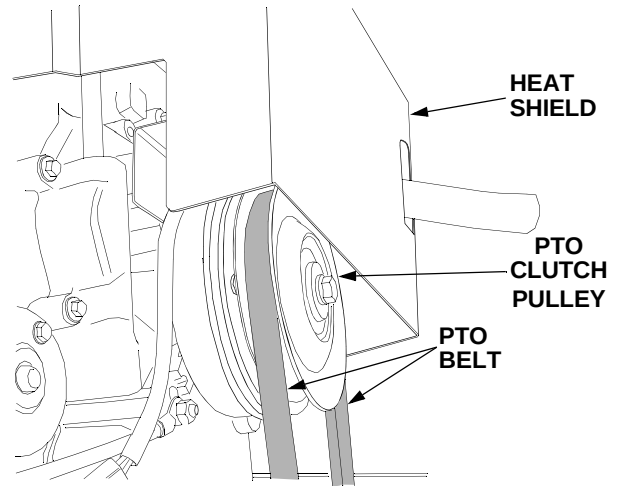

Figure 6-12
4. Open the tractor hood. From the front of the tractor, lift the two sides of the belt up and maneuver the PTO belt over and off the front of the PTO clutch pulley on the front of the engine. Lower the belt down between the front of the PTO pulley and the engine heat shield (See Figure 6-12).